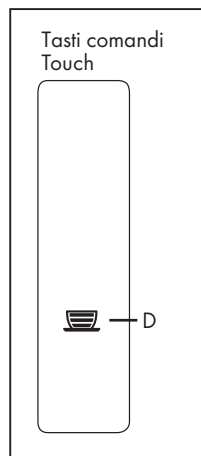

Fig. 8
- Switch on the machine and within one second press and hold down the button  (D) for about 3 seconds (**Fig. 8**).